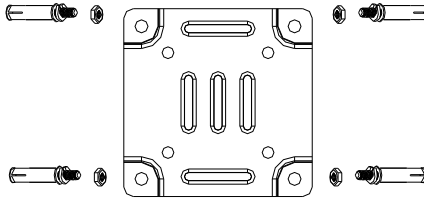

Figure 2-30 Attach the Installation Plate
3. Fix the installation plate and insert M10 \times 80 expansion screws into the screw holes, as shown in Figure 2-30.